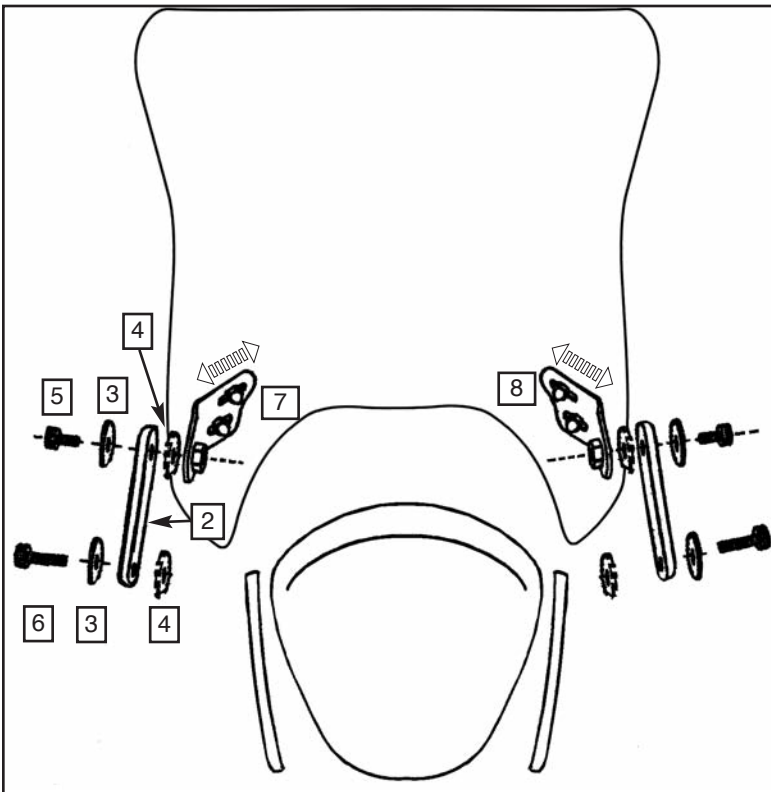

Figure 2
4. Hold windshield assembly in place to motorcycle headlight mount points. Adjust the width of the windshield Mount Brackets (7 and 8) to match width of headlight mount points by loosening the Cap Nuts (12) and sliding the Mount Bracket as necessary. **(4mm Hex Wrench and 10mm Socket) Figure 2**
5. Install the Left Offset Bracket (2) to the Inner Bracket (7) with 1, Serrated Washer (4), 1, Flat Washer (3) and Screw (5). **(5mm Hex Wrench) Figure 2**
8. Install Windshield assembly to headlight mount points using the Serrated Washers (4), Flat Washers (3) and M8 x 40 Screw (6). **(5mm Hex Wrench) Figure 2**
9. Adjust the Windshield to the desired position and securely tighten the 4 Screws (5 and 6). **(5mm Hex Wrench) Figure 2**